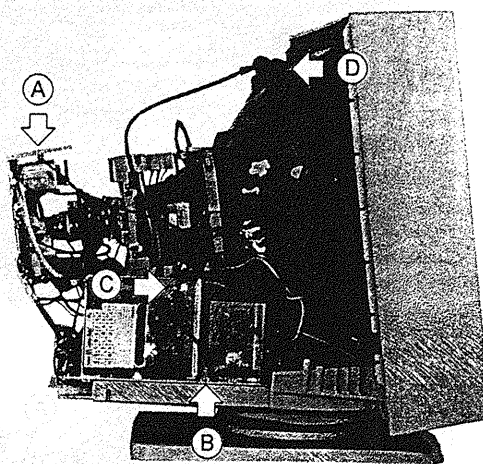

Figure 2-3
1. Disconnect the ground wire from the neck shield. Refer to the figure 2-3 (A).
2. Disconnect the ground wire from the main board. Refer to the figure 2-3 (B).
3. Release the screw from the FBT cover. Refer to the figure 2-3 (C).
4. Remove the anode cap from the CRT. Refer to the figure 2-3 (D).